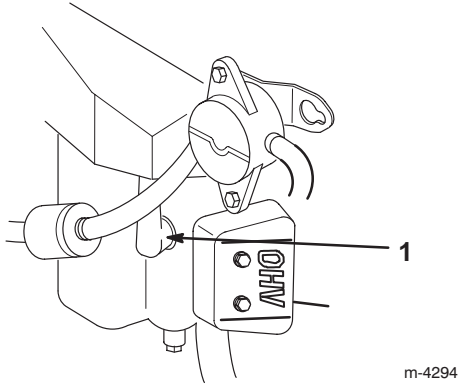

Figure 41
3. Disconnect the wires from the spark plugs (Fig. 41).
3. Connect the wires to the spark plugs (Fig. 41).